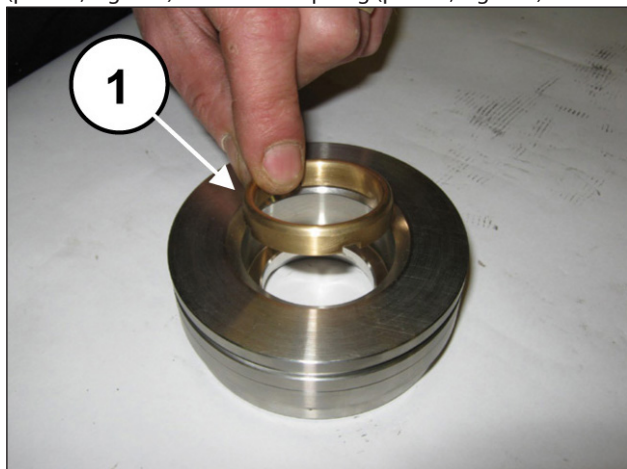
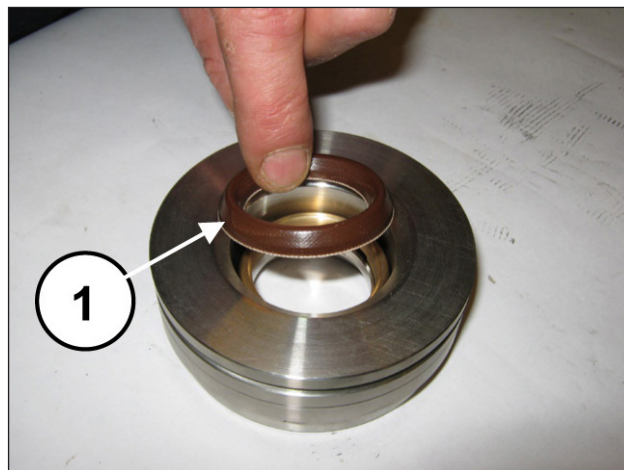
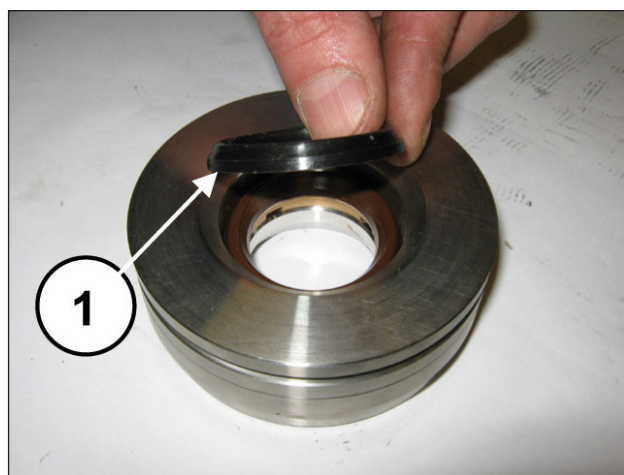

Fig. 182
Fig. 183
Fig. 184
Install the head ring (pos. ①, Fig. 182), the high pressure seal (pos. ①, Fig. 183) and the restop ring (pos. ①, Fig. 184).